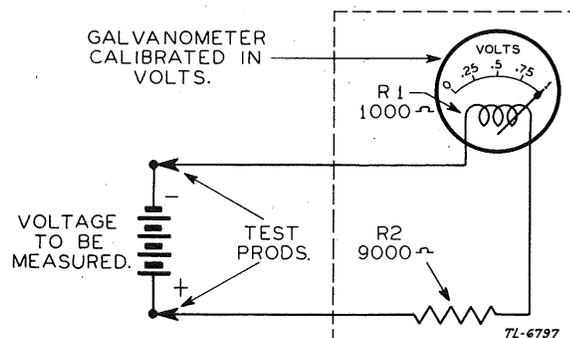

Figure 2. The galvanometer as a voltmeter.
(1) The commonly used milliammeters are most accurate at the top (maximum) portion of the scales. For greatest accuracy, take current readings at the top of the scale by using the lowest available meter range for any given measurement. However to avoid damage to the meter always start by using the highest range and work down to the lowest usable range; that is, the range which will place the needle indication on the upper portion of the calibrated scale.
(2) Since a d-c meter will measure current flowing in only one direction, it is important to observe polarity when connecting the meter in a circuit. Current flowing through the meter in the wrong direction will damage the meter movement.
a. *General.* (1) The voltage across a battery can be measured by a galvanometer arranged as a voltmeter (fig. 2). Voltmeters are used for measuring the electric pressure, or voltage, between two points in an electric circuit. While an ammeter is connected in series with the circuit in which current is being measured, a voltmeter is connected in parallel with (directly across) the voltage source. Because of its comparatively low resistance, the moving coil of the voltmeter cannot be connected directly across the voltage source, as it would ordinarily take an excessive current and be burnt out. Therefore, it is necessary to connect a high resistance in series with the coil.
(2) The galvanometer can then be connected across the voltage source in series with this resistance and used to measure voltage. By Ohm's law the current flowing through the meter is proportional to the voltage at its terminals. As explained previously, this current flows through the moving coil and develops a turning force proportional to the current intensity. Therefore, the voltage across the terminals of the voltmeter develops a turning force which moves the pointer attached to the moving coil across a scale calibrated in volts.
b. *Multipliers.* (1) Because of the low resistance of most meters only a very low voltage is required to cause full-scale deflection. The range of a voltmeter may be increased, however, by the use of additional resistances connected in series with the meter. These additional resistances are called multipliers. When the resistance of the meter circuit is increased by placing a resistor in series with it, the voltage necessary to cause full-scale deflection is increased proportionately.
(2) If a resistor equal in value to the meter resistance is placed in series with the meter across a battery, half as much current will flow, or twice the voltage will be required for full-scale deflection of the meter. If the meter is calibrated in units of current, and the values of the meter resistance R_1 and the multiplier resistance R_2 are known, the voltage across the battery may be calculated using Ohm's law. However, the calculations for such measurements may be eliminated entirely by calibrating the meter scale directly in volts and including the multiplier resistor R_2 as a component part of the meter.
(3) A range switch may be included with the meter to switch various fixed values of R_2 into the meter circuit, thereby permitting several voltage ranges to be used with one instrument. Usually one resistance is used and tapped at several points in order to provide several values of resistance. The values of R_2 are generally chosen in multiples of 10 so that the resistance of the meter movement will be a fraction, such as $\frac{1}{10}$, $\frac{1}{100}$, or $\frac{1}{1000}$ of the total value of resistance in the meter circuit. This permits the original voltage-calibrated scale to be used on all ranges of the meter.
(4) As an example, suppose the meter movement in figure 2 has a resistance of 1,000 ohms and the scale of the meter is calibrated from zero to 1 volt. It is desired to extend the range of the meter to measure from zero to 10 volts. The multiplier resistor R_2 must drop 9 volts, leaving 1 volt across the meter for full-scale deflection. By Ohm's law, the current through the meter with 1 volt across it is 1 milliamperes. Since this same value of current must flow through R_2 , the resistance of R_2 may be figured by Ohm's law to be 9,000 ohms. Any voltage between zero and 10 volts may now be measured by multiplying the reading on the meter scale by 10. If it is desired to extend the range of the meter to read from zero to 100 volts, a multiplier resistance of 99,000 ohms must be placed in series with the meter movement. Then the voltage reading on the meter scale will be multiplied by 100 for the correct value of voltage being measured. These figures may be verified by using Ohm's law.
c. *Sensitivity.* (1) The d-c voltmeters used in Test Equipment RC-68(*) are rated at either